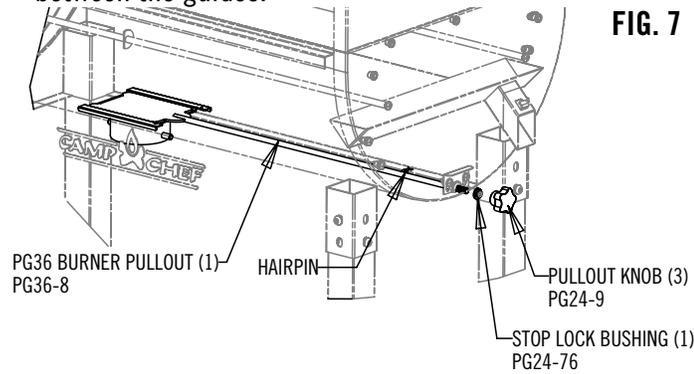

FIG. 7
1. Assemble burner pullout as shown by sliding the rod through the bottom hole on the right side of the grill as shown in Fig. 7. Burner pullout plate should be centered over the hole in the bottom of the stove and centered between the guides.